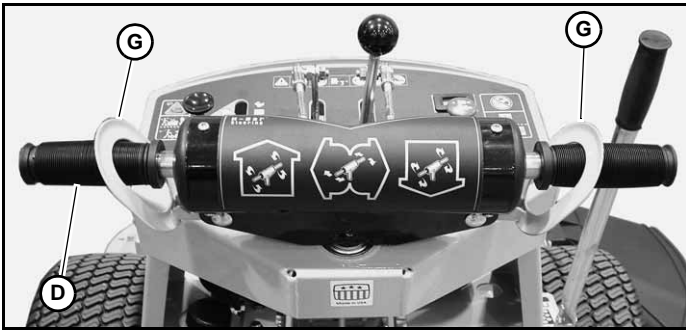

Figure 3-2
- D. H-Bar handle (Figure 3-2)** — this handle controls the unit's acceleration, speed, steering direction and dynamic braking.
- G. Operator presence control levers (Figure 3-2)** — engages the operator presence switches. If the switch is not engaged the unit will not operate. Refer to the Safety Interlock system for more information.
The unit is equipped with a safety interlock system consisting of the neutral lock switch, operator presence control lever switches and deck clutch switch. Figure 3-2